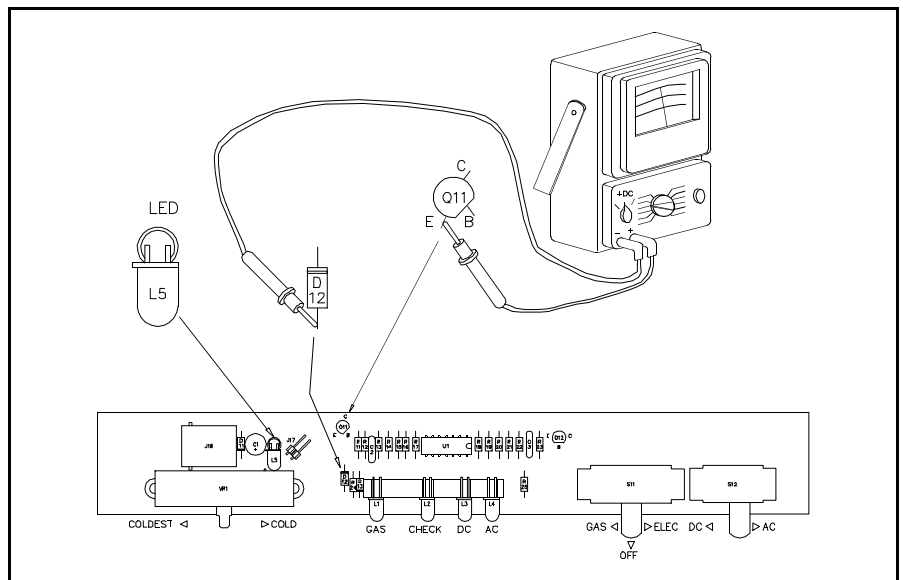
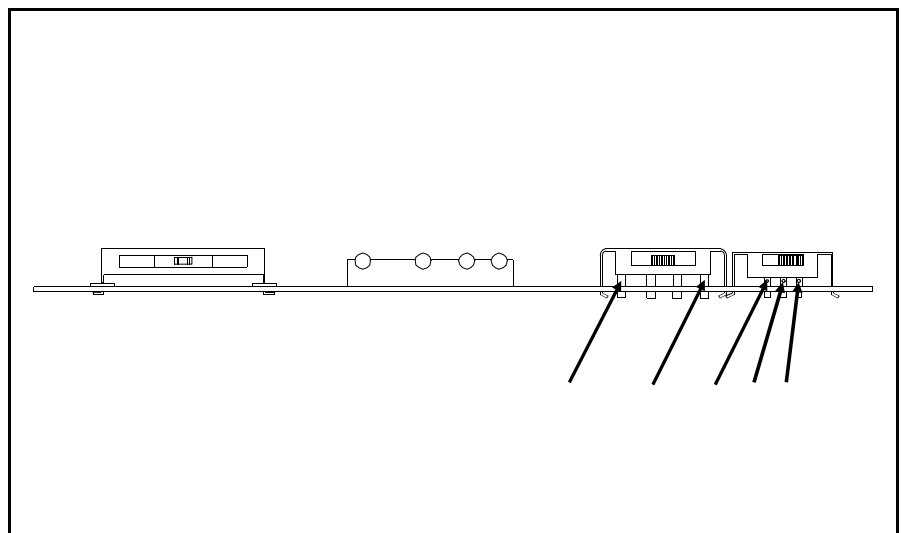

Figure 5.49 12 Volt DC Check
Figure 5.50 Control Voltage Check
- Set the Mode Selector switch to the OFF position as shown by Figure 5.49.
- Connect a volt meter as shown in Figure 5.49.
- With the volt meter's negative lead at D12, as shown in Figure 5.49, check the switch terminals shown in Figure 5.50.
- Set the Mode Selector switch (es) to AC ELECTRIC Mode. Use the Volt meter (with negative lead still connected per Figure 5.49) and check Points B, D and E as shown in Figure 5.50. You should measure approximately 2 Volts DC. If not, replace the Eyebrow Board.